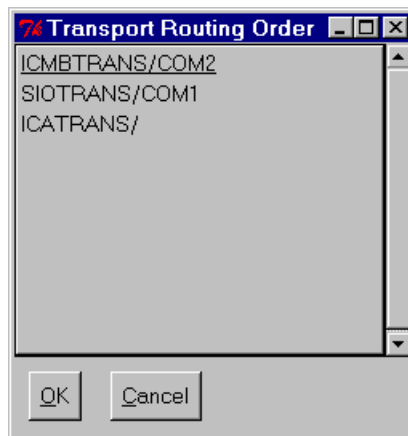

Figure 7-15. Transport Module Order Dialog Box
- Transport Order. . .—Presents a dialog box for changing the priority order when multiple transport modules are available. Clicking on an item in the dialog promotes that item to the highest priority. Figure 7-15 shows the Transport Module Order dialog box containing two available transport layers: